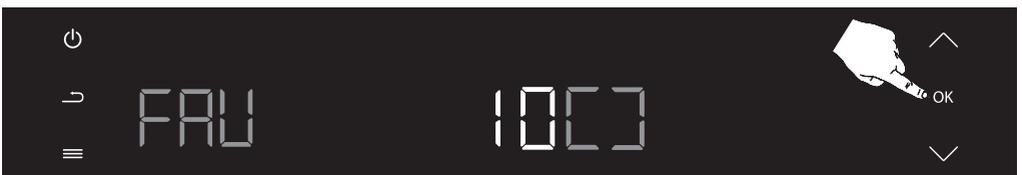

Figure 55
After selecting the favourite number, a long press on the confirmation button (OK) adds the cooking to the favourites. (see figure 55)